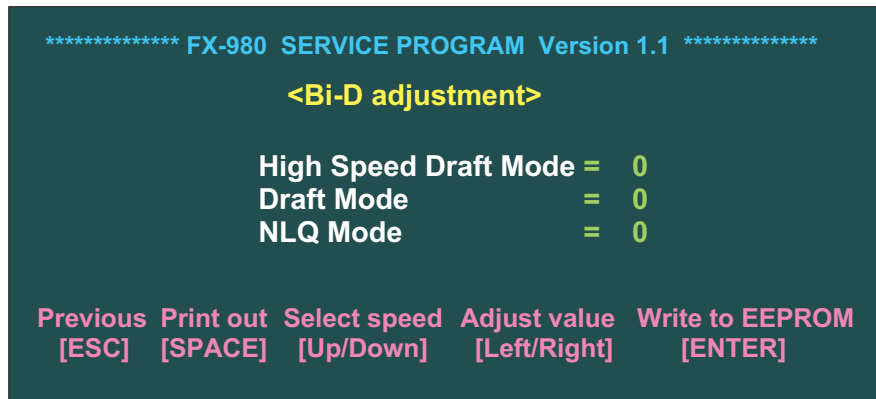
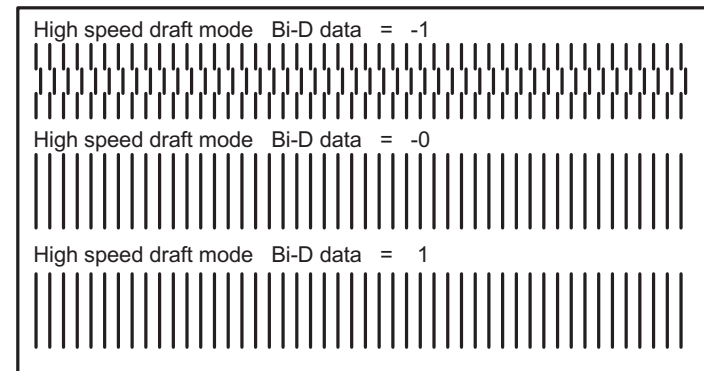

Figure 4-5. Initial Menu of the Bi-D Adjustment
Figure 4-6. Bi-D Pattern Sample
- The value "0" shown in the screen shown in Figure 4-5 is the initial value used in the program, which varies from the one stored in the EEPROM. However, if the main board has been replaced, the value in the EEPROM is replaced with "0" as the initial value.
4. Output the patterns for the Draft Mode and the NLQ Mode, the rest of the three modes in the screen (Figure 4-5). Then check that the vertical lines in the middle row for each mode are aligned. (If no adjustment is needed, you can turn the printer off, not continuing to the next step.)
5. Examine the patterns for the three modes output in the previous steps, and correct the value in the screen shown in Figure 4-5 until the vertical lines for the center value (Data = 0 in Figure 4-6) are aligned.